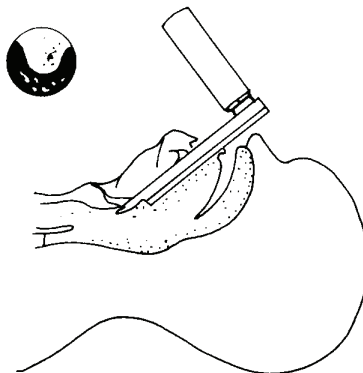

Figure 3-66. Retract the epiglottis
- f. Retract the epiglottis and observe the vocal cords. Refer to Figure 3-66.